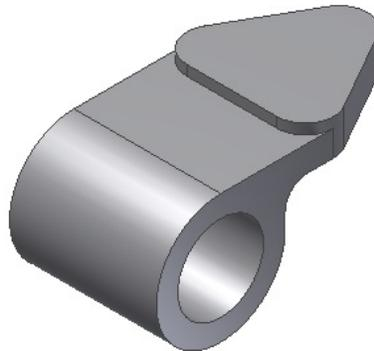

Figure 9-98 Model in isometric view
11. Hide both work planes by using the **Browser Bar**. Choose the **Bar** icon from the ViewCube to display the model in isometric view, as shown in Figure 9-98.